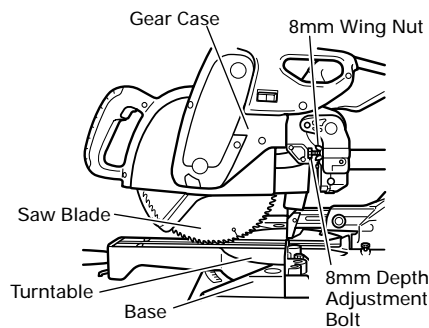

Fig. 9
Check that the saw blade can be lowered 13/32" to 7/16" (10mm to 11mm) below the table insert as shown in Fig. 9.
**NOTE:** When cutting a workpiece exceeding 3-11/32" (85mm) in height in right-angle cutting or 2-3/16" (55mm) in left bevel angle cutting or 1-3/16" (30mm) in right bevel angle cutting, adjust the lower limit position so that the base of the motor head (see Fig. 9) will not come in contact with the workpiece.